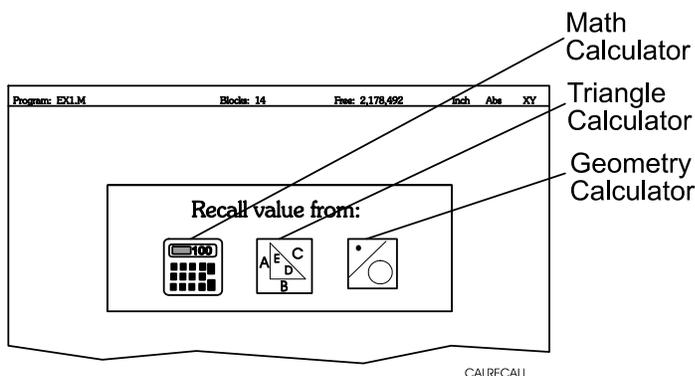

Figure 3-2, Recall Selection Pop-up
2. Press **Recall (F2)**. The **Select value:** menu is displayed. Refer to Figure 3-2, Recall Selection Pop-up.